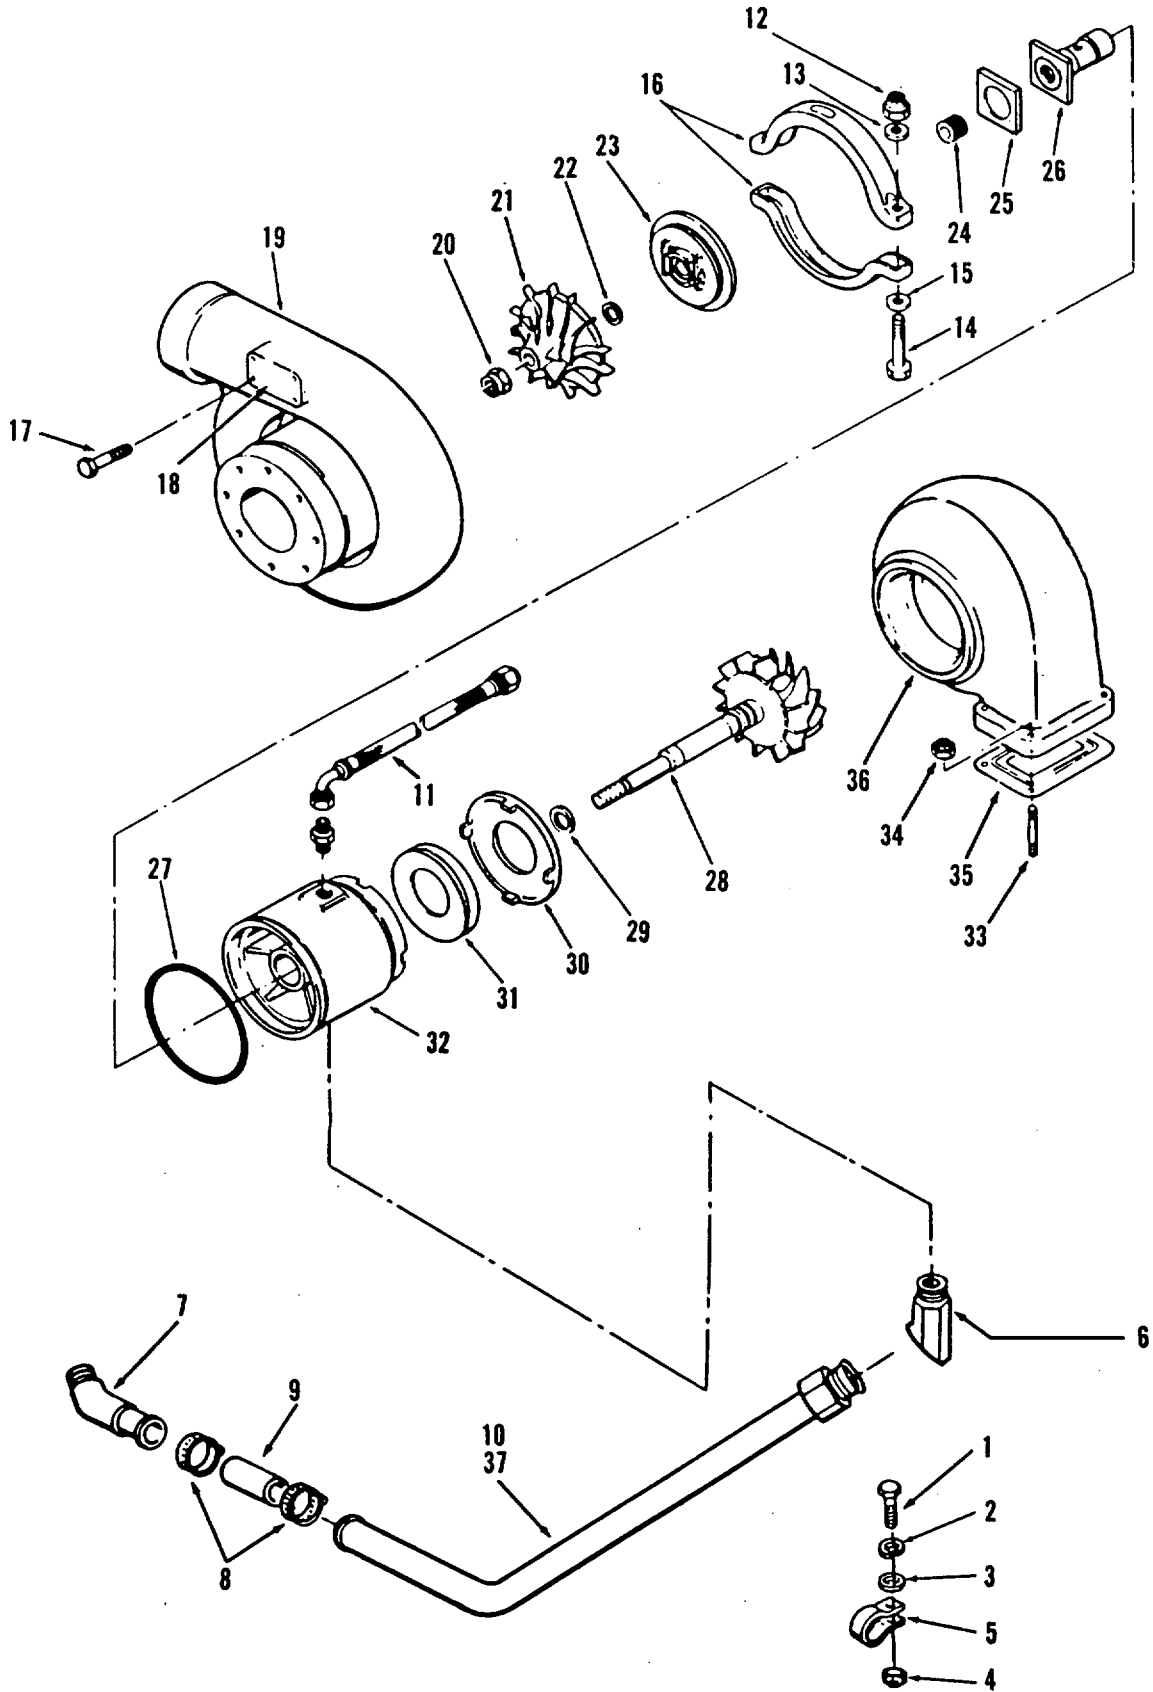

Figure 13-28. Turbocharger, Exploded View, Code B
13-16. TURBOCHARGER, CODE B. To repair turbocharger, refer to figure 13-28, and proceed as follows:
b. Remove screws (14), washers (15), nuts (12), and seals (13). Remove clamp (16).
c. Remove clamps (5) and (8), fittings (6) and (7), and remove hoses (9) and tubing (10) and (37).
d. Remove hose (11).
e. Disassemble turbocharger as shown in figure 13-28.
f. Inspect impeller (21) for damage. Discard and replace if damaged.
g. Inspect wheel (28) for cracked or broken vanes. Discard, and replace if damaged.
h. If slight scratches or nicks are present in the compressor housings, (32), (36), or (19), they may be smoothed out with a very fine polishing cloth. Discard any housing that is cracked or distorted.
i. Reassemble turbocharger as shown in figure 13-28, being sure to replace any worn or damaged parts.
LEGEND FOR FIGURE 13-28